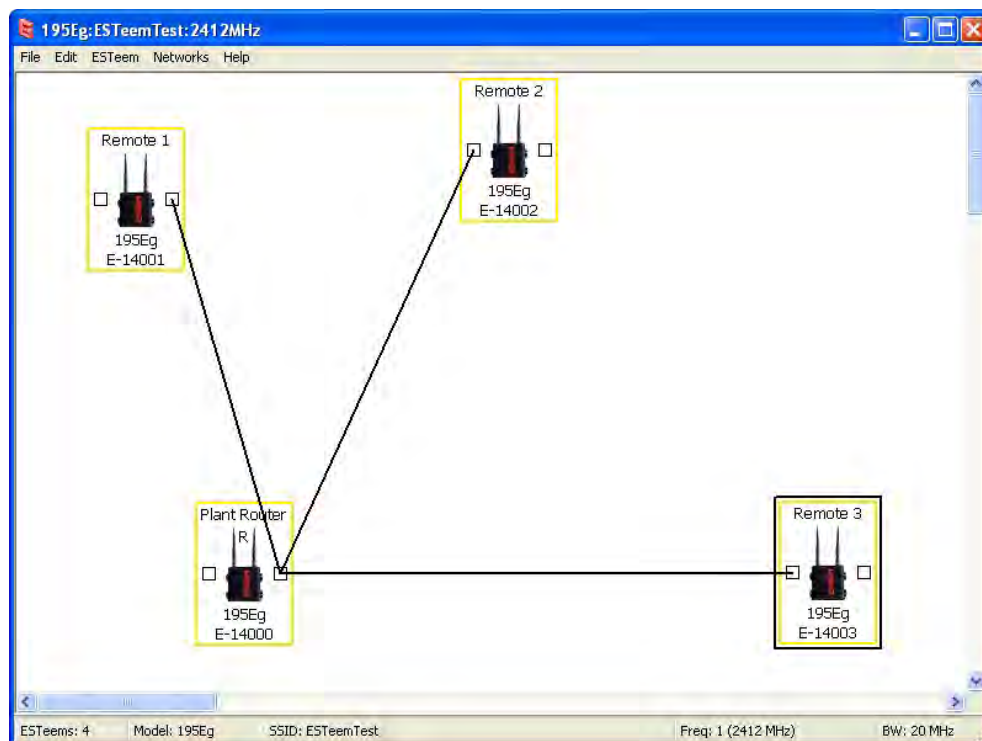

Figure 19: Router Example Layout
2. Move the ESTeem 210 icons on the screen to simulate the layout of the diagram. Draw connection lines between the wireless links modems in the same order as the network layout (Figure 19).